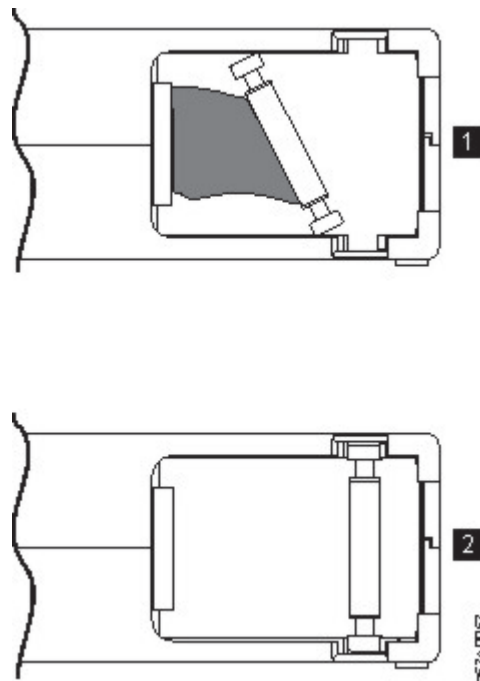

Figure 95. Leader pin in the incorrect and correct positions. The cartridge door is open and the leader pin is visible inside the cartridge.
- Check that the leader pin is properly seated. See **2** in Figure 95 on page 159.
- Do not drop the cartridge. If the cartridge drops, slide the cartridge door back and ensure that the leader pin is properly seated in the pin-retaining spring clips. See **2** in Figure 95 on page 159. If the leader pin becomes dislodged, go to “Repositioning or reattaching a leader pin” on page 159.
Improper placement of leader pin. See Figure 95 on page 159.
A leader pin that is improperly seated inside a cartridge interferes with the operation of the drive. Figure 95 shows a leader pin in the incorrect **1** and correct **2** positions.